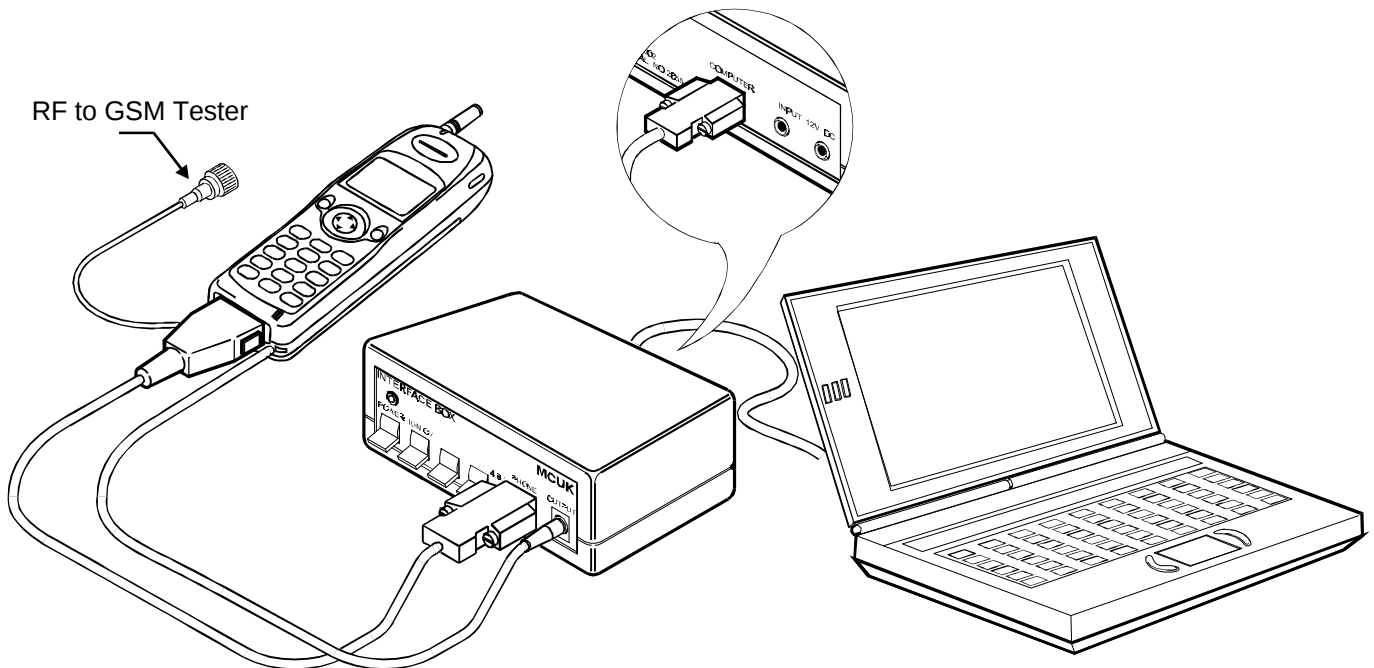

Figure 5: External test equipment setup
Figure 5 shows a typical setup for testing the G600 unit. The channel box software (supplied on floppy disk) should be installed onto the main drive of the personal computer.
1. (Figure 5) Connect the test equipment into test mode configuration.